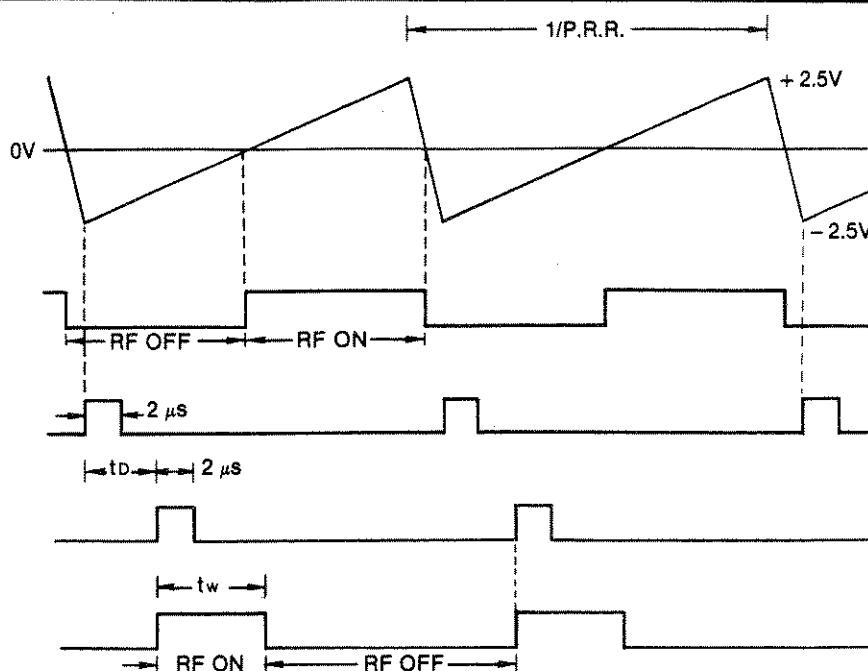

Figure 3-2. Pulse Mode Timing Diagram
- 5 **MODE Buttons** — Three buttons set the mode to continuous wave output (CW), frequency modulated output (FM) or pulsed output (PULSE). Submodes to FM and pulse are further selected by **6** and **7** respectively. The CW mode LED indicator lights when CW is selected. The 907 can be in FM and PULSE modes at the same time, but no other combinations of these three modes are possible. Buttons are press-to-hold, press-to-release. Should all three buttons be released, the mode will be CW (the indicator will not be lit).
- 6 **FM (INT/EXT)** — Submode selector of FM **5**. When pressed in, modulation source is the front panel controlled internal sawtooth generator. When the button is extended, the modulator source is the externally applied signal at **28**. (Ref: Figure 3-2.)
- INT**  — Pulsed RF output at 50% duty cycle controlled by the internal pulse generator whose rate is set by **8** and **25**. (Ref: Figure 3-2.)
- INT**  — Pulsed RF output controlled by the internal generator whose rate is set by **8** and **25** and whose width is set by **10** and **19**. Delay relative to NORMAL SYNC **21** is adjusted by **9** and **22**. (Ref: Figure 3-2.)
(1) Ref: Figure 3-2